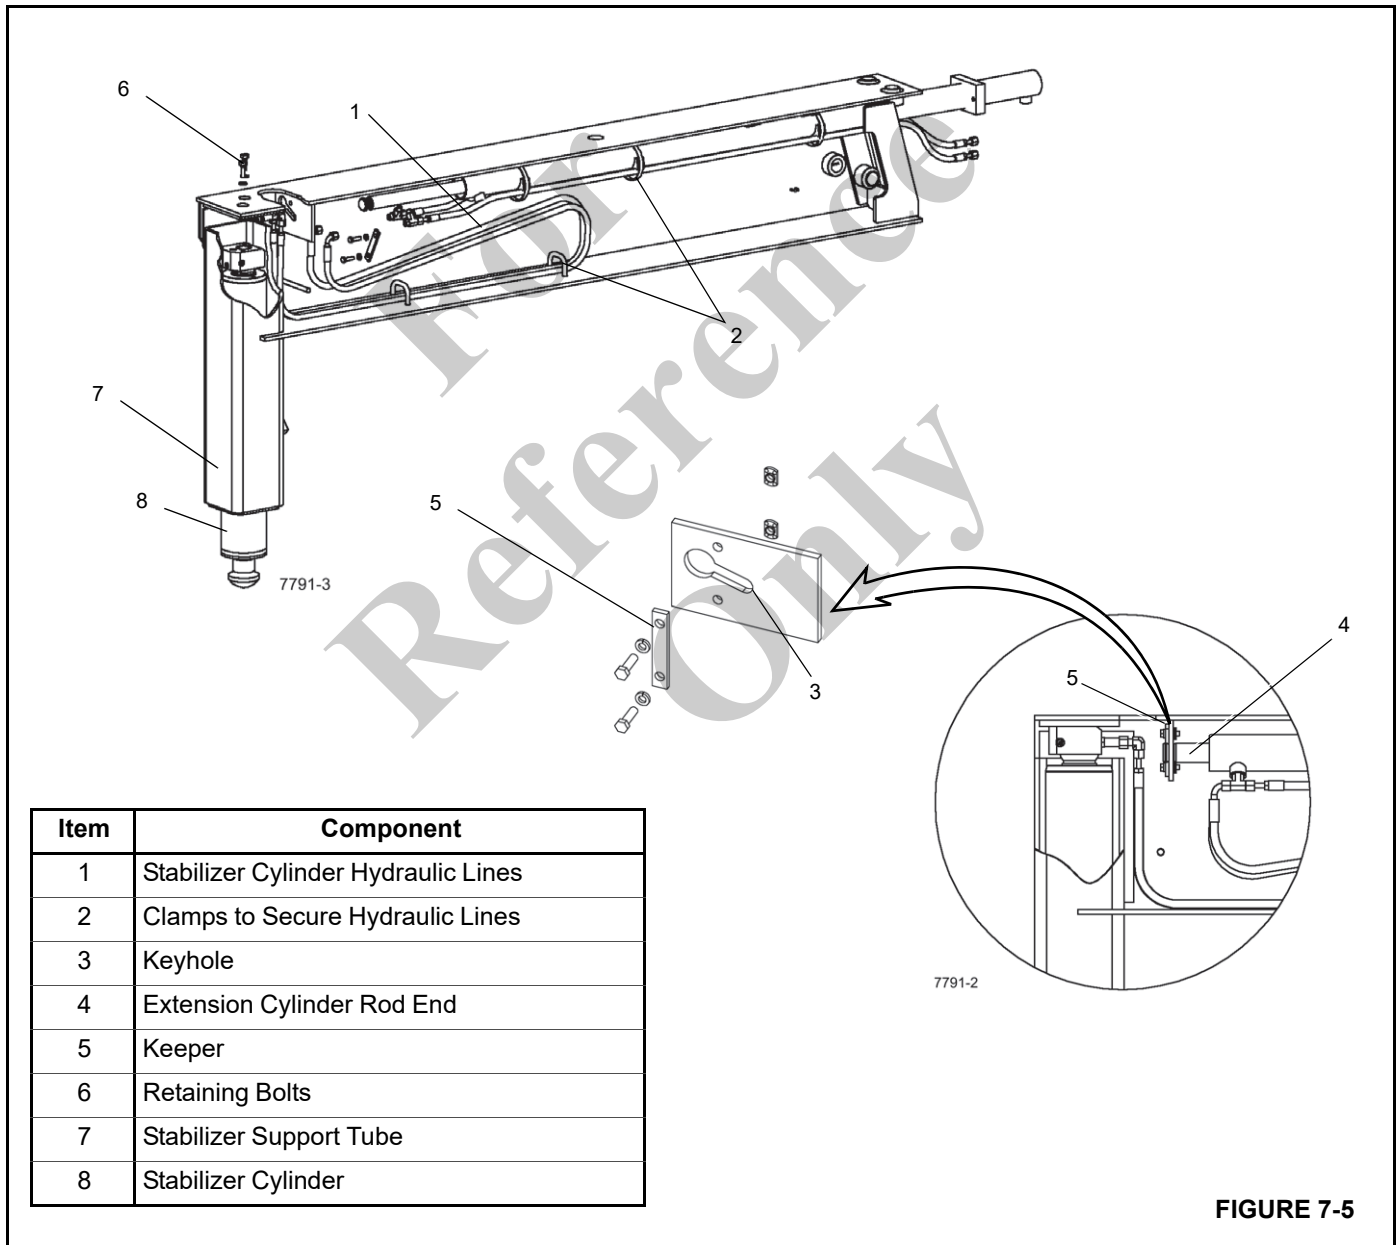

FIGURE 7-5
- 2. Remove the keeper (6, Figure 7-5) from the keyhole.
- 3. Remove the rod end of the extension cylinder (5) from the keyhole on the stabilizer end of the outrigger beam.
2. Secure the stabilizer hydraulic hoses to the extend cylinder with the clamps as shown in Figure 7-5.
3. Slide the extension cylinder into the outrigger beam. Make sure the stabilizer hydraulic hoses are routed as shown in Figure 7-5.
1. With a lifting device, raise the truck until there is enough clearance to remove the stabilizer cylinder (8, Figure 7-5) from the stabilizer support tube (7).
4. Unbolt the retaining bolts (6) for the stabilizer cylinder.
5. Slide the stabilizer cylinder (8) out of the stabilizer support tube (7).